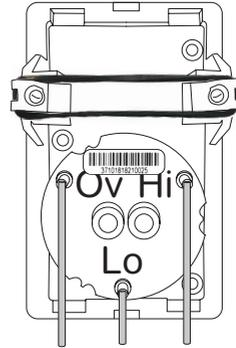

Fig. 1.
Two IHC 24 V outputs can be used to enable the same sound emitter to emit tones at two sound levels, 98 dB(A) and 80 dB(A) (see fig. 1).